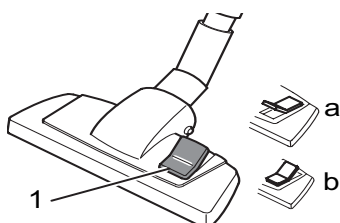

Fig. 12
5. Adjust the carpet/hard floor switch (Fig. 12/1) depending on the type of flooring:
- **Hard floor (Fig. 12/a)**
- **Carpet (Fig. 12/b)**